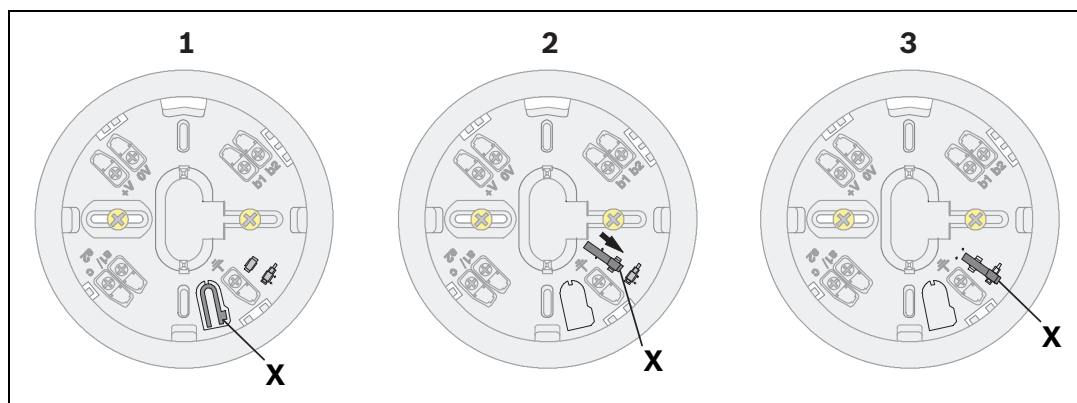

Figure 5.1 Activation of the removal protection mechanism
The detector module can be locked in the base (removal protection). The locking feature is activated by breaking the bolt (X) out of the base and pushing it into the corresponding guide, as shown in *Figure 5.1*.